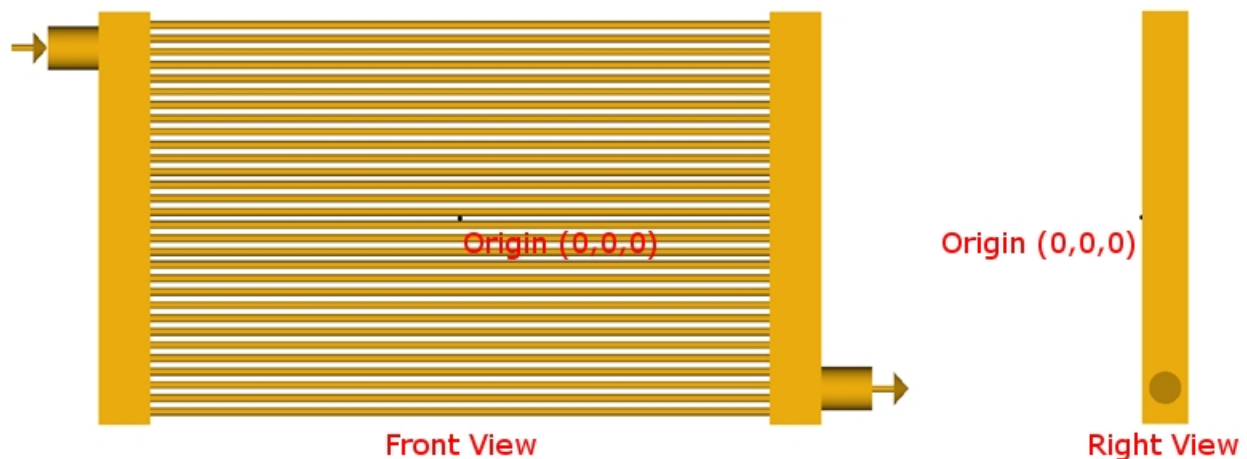

Figure 1: Location of a heat exchanger in global space at location (0,0,0).
- Location X (Global)** Specifies the absolute X location of the component's first cross section in the global coordinate system. The distance is measured from the global origin to the center, front face of the object. Figure 1 shown below has a heat exchanger location of (0,0,0).
- Location Y (Global)** Specifies the absolute Y location of the component's first cross section in the global coordinate system. The distance is measured from the global origin to the center, front face of the object. Figure 1 shown below has a heat exchanger location of (0,0,0).
- Location Z (Global)** Specifies the absolute Z location of the component's first cross section in the global coordinate system. The distance is measured from the global origin to the center, front face of the object. Figure 1 shown below has a heat exchanger location of (0,0,0).